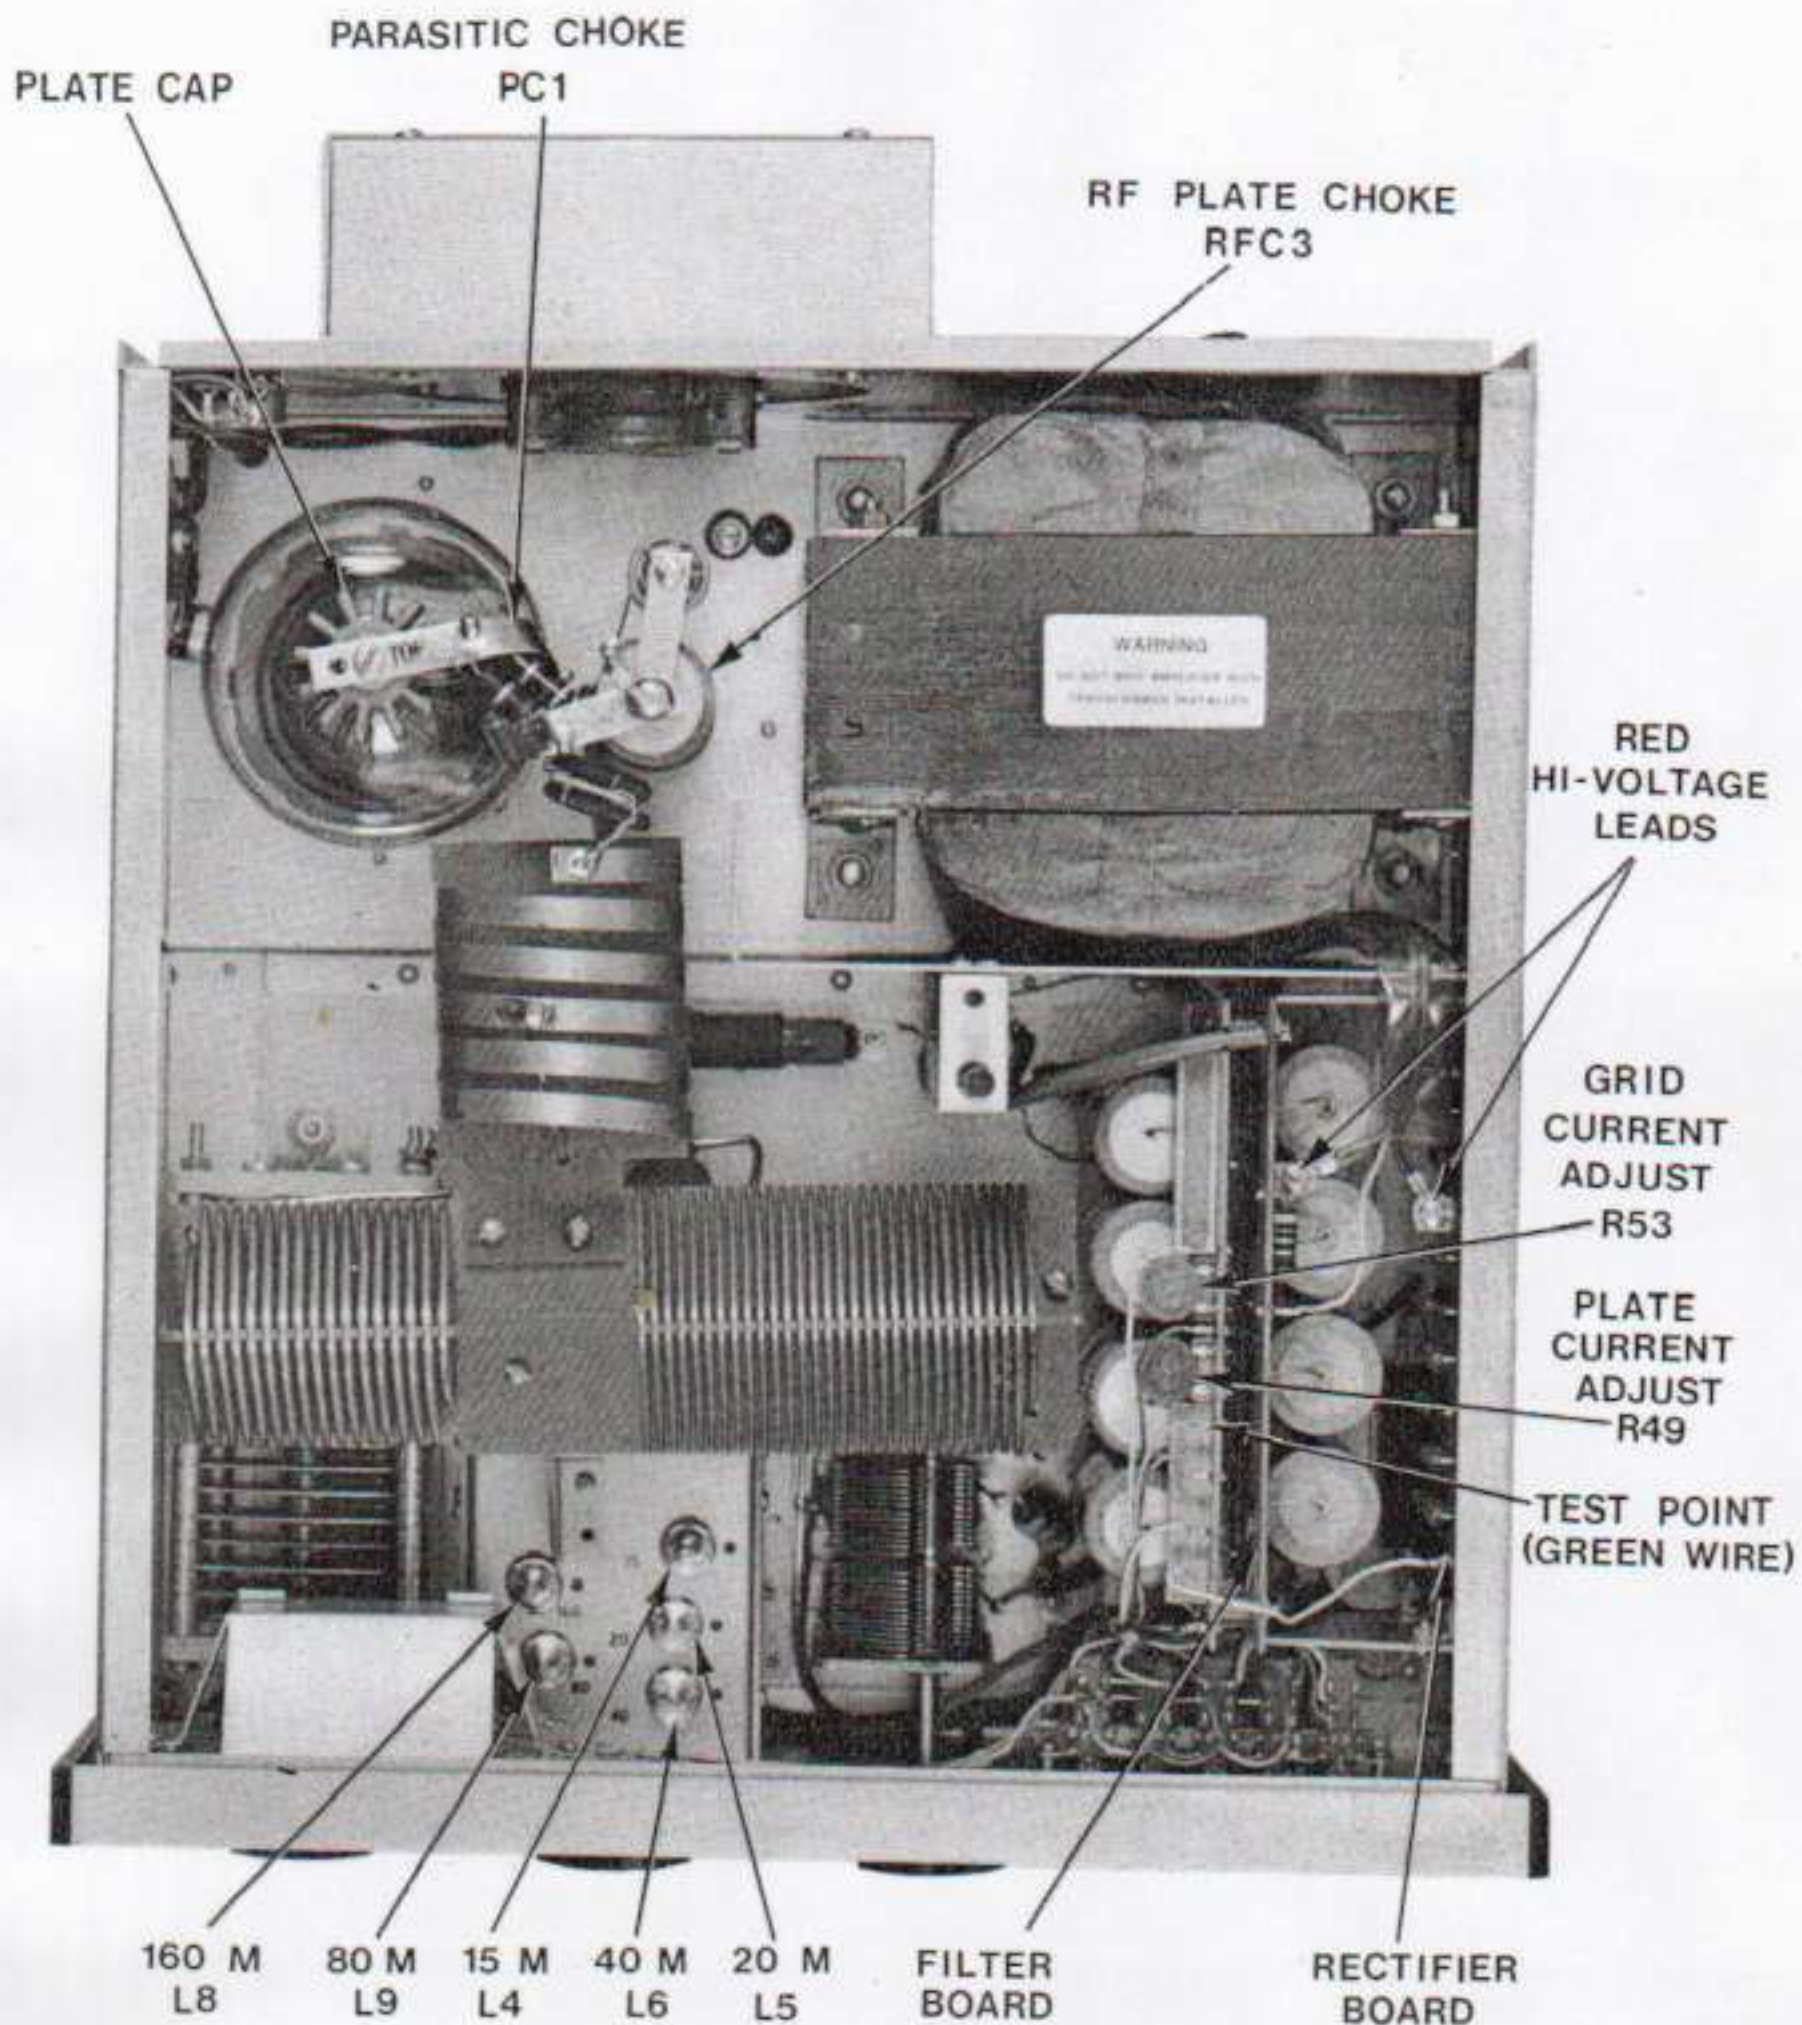

Figure 5-1 Component Locations, Top View
Before disassembling or making any adjustments, unplug the amplifier from the AC power source and wait 2 minutes for the power supply filter capacitors to discharge before removing the cabinet. Disconnect all other connections to the amplifier. Remove the cabinet completely so that the interlock switch near the middle of the chassis engages properly. It is further suggested that the tube plate or the B+ terminal on the power supply filter board (see fig. 5-1) be shorted to ground with a heavy screwdriver (with an insulated handle) before work is begun. Touch the screwdriver blade to the side of the chassis *first* and then, with the blade still in contact with the chassis, move the blade tip into contact with the high voltage (B+) terminal.
Refer to figure 5-1 and 5-2 as required to locate the components requiring adjustment.
- e. Adjust the input coil for the band in use (see figure 5-1) for lowest input SWR as indicated by the SWR bridge.